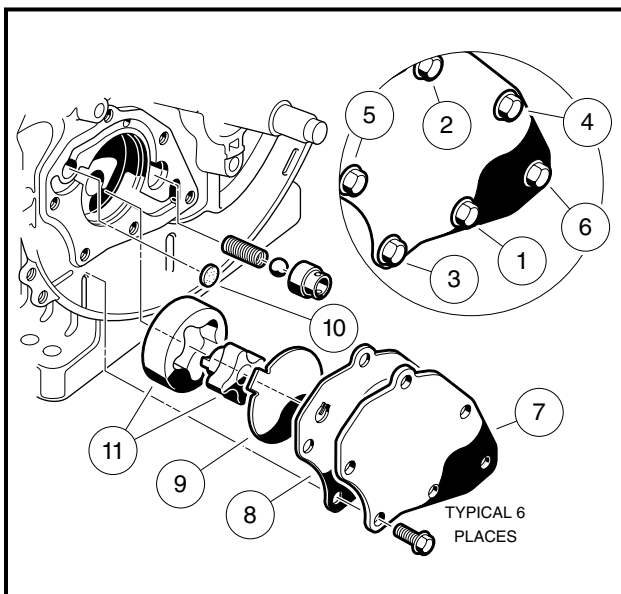

Figure 3-58 Oil Pump Removal
1. Remove the six screws (1-6) and remove the oil pump cover (7) (**Figure 3-58, Page 3-29**).
2. Peel off the oil pump cover gasket (8).
3. Remove the pump gear cover plate (9) and filter screen (10).
3. Remove inner and outer rotors (11) (**Figure 3-58, Page 3-29**).
3. Install six bolts (1-6) and finger-tighten. Then tighten to 7 ft-lb (9.5 N-m) in the sequence shown (**Figure 3-58, Page 3-29**). After tightening bolts, check the torque of the first bolt.